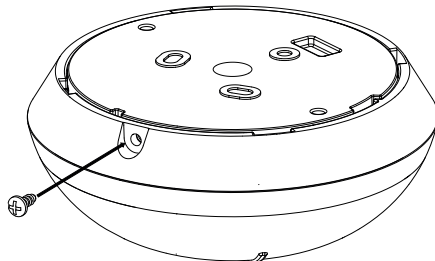

Figure 6. Fastening the detector
4. Fasten the detector to the bracket with the screw (see Figure 6).